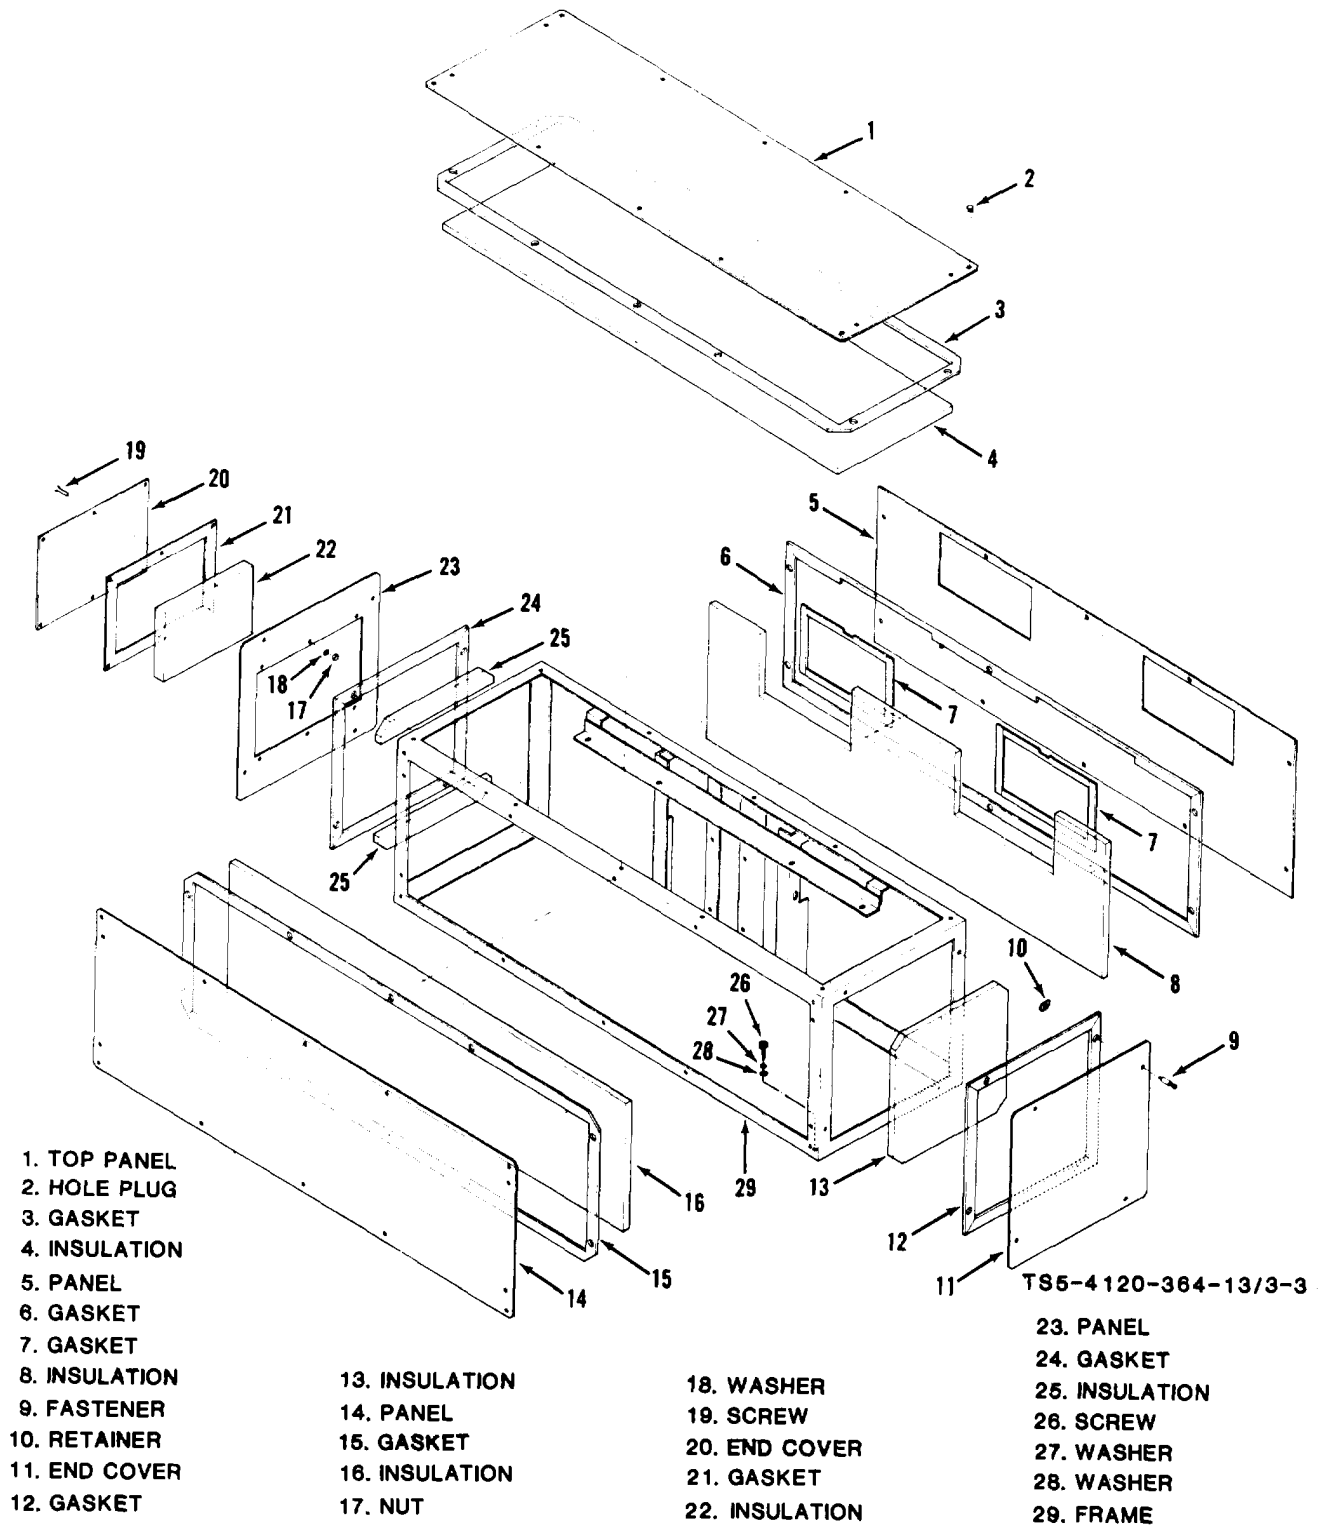

Figure 3-3. Evaporator fan section, covers, panels and frame
(1) Removal. Remove the covers and panels by turning the fasteners one-quarter turn counterclockwise. (See figure 3-3).
(2) Cleaning. Clean all parts with a damp cloth and dry thoroughly.
(3) Inspection.
(1) Removal.
- (a) Refer to figure 3-3 and remove front, rear and end panels from the evaporator fan section by turning fasteners (9) one-quarter turn counterclockwise.
(e) Refer to figure 3-3 and attach front, rear and end panels to evaporator fan section by turning fasteners (9) one-quarter turn clockwise.
(a) Refer to figure 3-3 and remove front, rear and end panels from evaporator fan section by turning fasteners (9) one-quarter turn Counterclockwise.
(h) Refer to figure 3-3 and install front, rear and end panels.